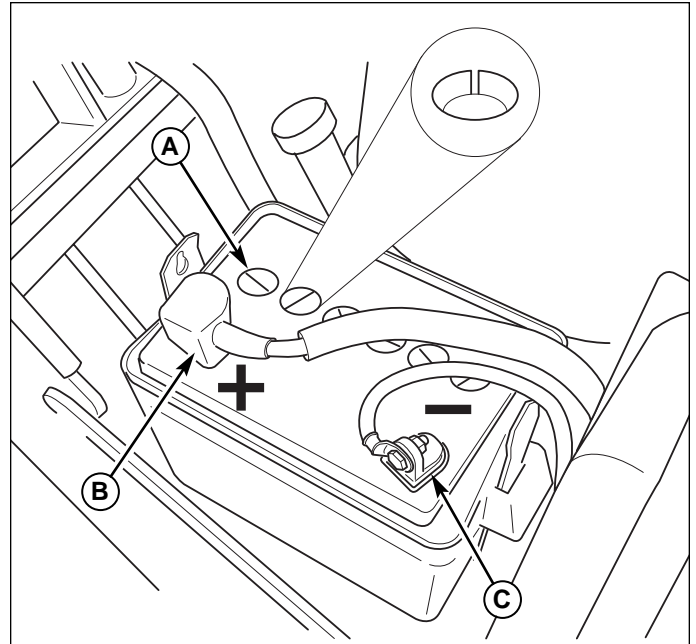

Figure 12. Battery Compartment
2. Remove the battery filler cap(s) (A, Figure 12). Fluid must be even with the split ring full mark. If not, add distilled water.
1. Disconnect the cables from the battery, negative cable first (C, Figure 12).
3. Reinstall the battery and reattach the battery cables, positive cable first (see B, Figure 12)